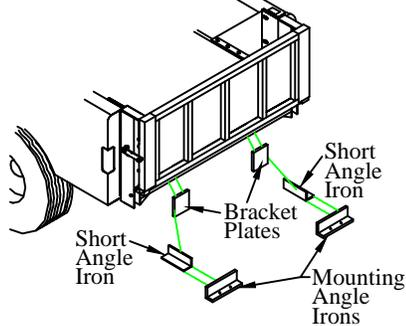

Figure 20: Lower bracket support.
- 2. Bolt** the bracket plates to the truck frame (Figure 20).